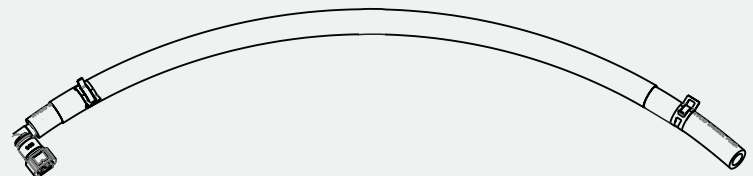

FIGURE 4
- 4 Install two supplied elbow connectors onto one end of both supplied fuel hoses and install four supplied fuel hose clamps onto both ends of fuel hoses, as per FIG. 4. Do not tighten fuel hose clamps yet.